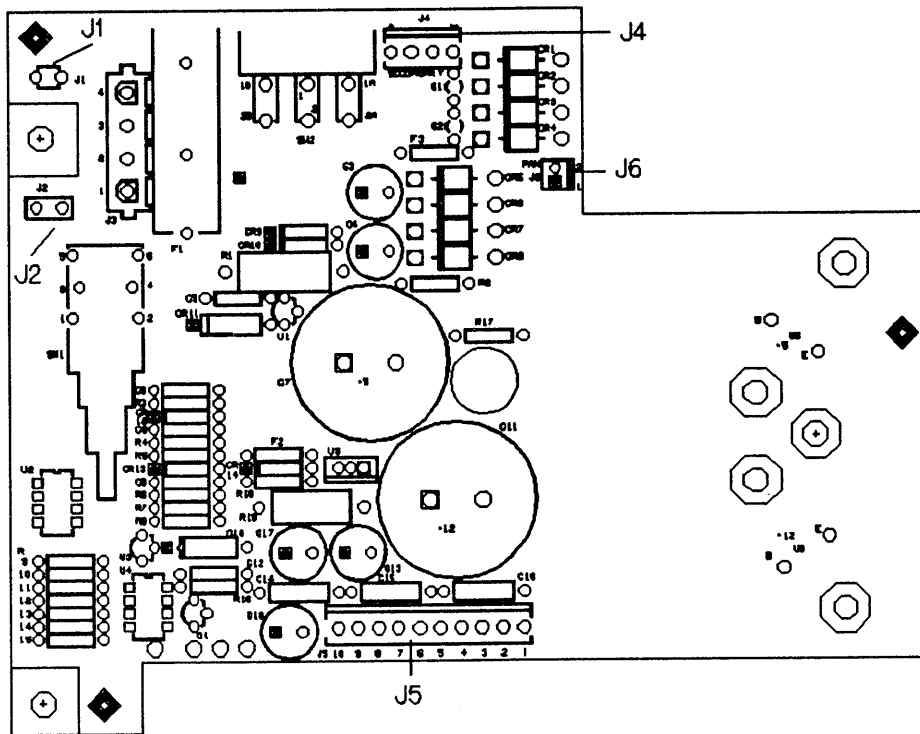

Figure 6-3. Power Supply PCA (A2).
- Use figures 6-3 and 6-4 for cable connector locations.
- Remove the three mounting screws. Refer to Figure 6-3 for location (the fasteners with the "+" mark in them)